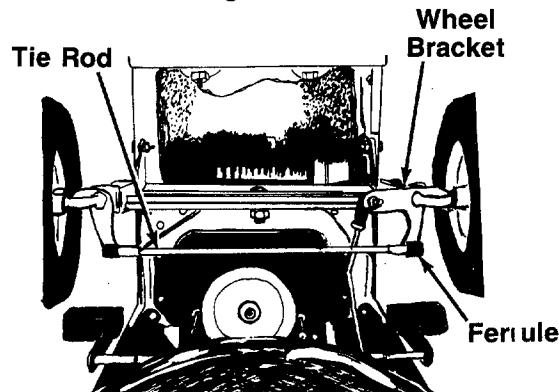

FIGURE 18.
The caster (forward slant of the king pin) and the camber (tilt of the wheels out at the top) require no adjustment. Automotive steering principles have been used to determine the caster and camber of the mower. The front wheels should toe-in 1/8 inch. See figure 18. To adjust, follow these steps:
1. Remove the cotter pin holding the ferrule to the axle bracket. See figure 18.